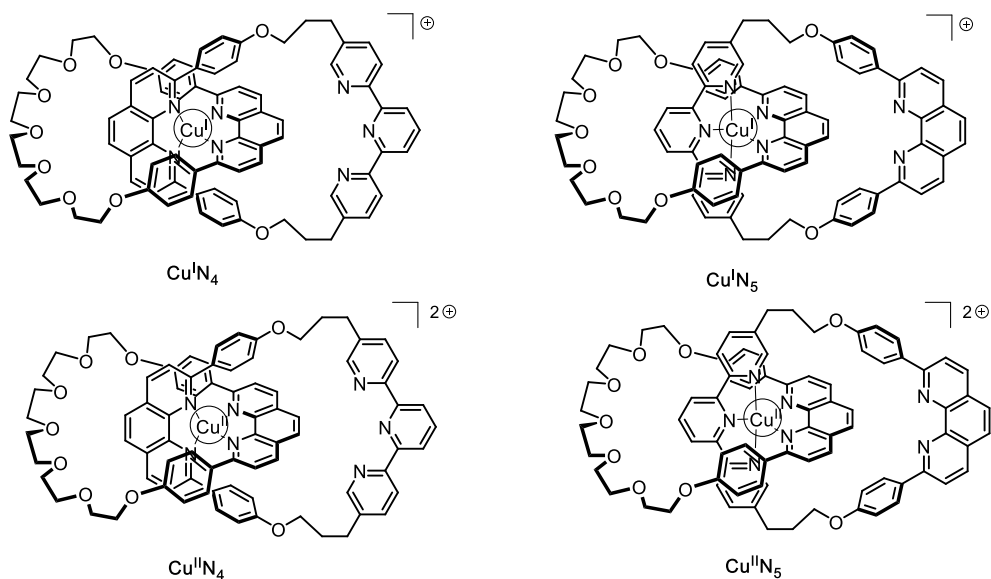

Fig. 2 – [2]catenane **L** states
11. **Fill** the solid boxes with the designation of the involved complexes as given in Fig. 2, and **fill the dashed boxes** to **complete** the sequence to achieve electrochemical control of the system by using the following notation:  (rotation of the ring); $+e^-$; $-e^-$.